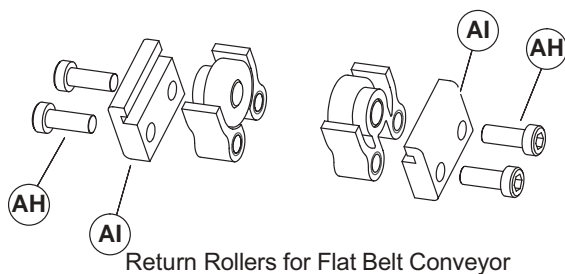

Figure 12
1. Locate return rollers. Exploded view shown in Figure 12.
2. Remove screws (Figure 12, item AH) and clips (AI) from roller assembly.